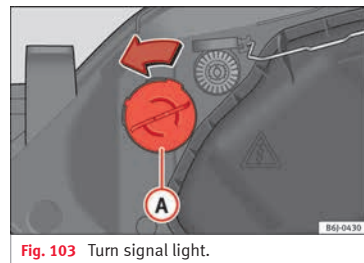

Fig. 103 Turn signal light.
- Turn bulb holder » **Fig. 103 ①** to the left and pull.